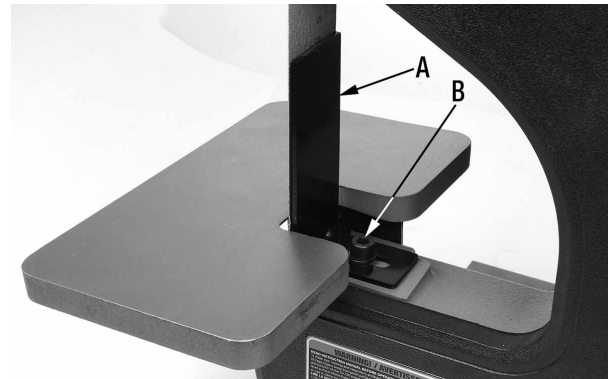

Figure 15
The belt platen (A) Fig.15 is used to support the workpiece against the sanding belt during operations. For most common operations using the sanding belt, belt platens (1" belt platen with 1" x 42" belt, 2" belt platen with 2" x 42" belt) must be adjusted so that it almost touches the back of the sanding belt. This is done by loosening cap screw (B) and positioning the belt platen (A) to the desired position.
For not so common operations such as contour sanding or polishing, the belt platen (A) Fig.15 can be removed. Once the operation is complete, the appropriate belt platen should be reinstalled.